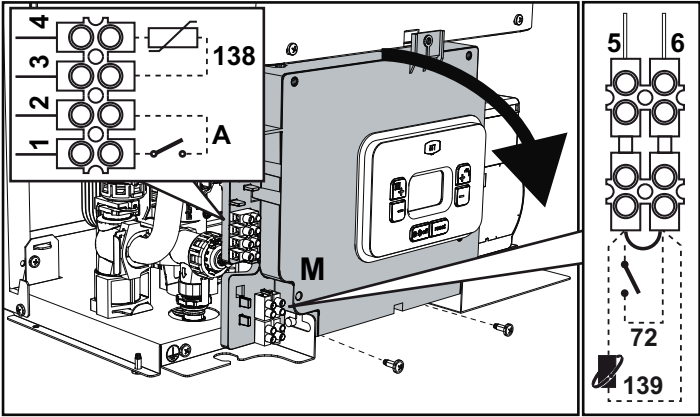
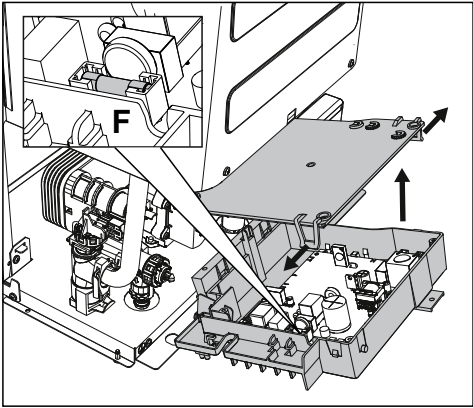

fig. 18
fig. 19
Remove the front panel (*** 'Opening the front panel' on page 287 ***) to access the terminal block (M) and fuse (F) by proceeding as follows (fig. 18 and fig. 19). **The terminals indicated in fig. 18 must be with voltage-free contacts (not 230V).** The arrangement of the terminals for the various connections is also given in the wiring diagram in fig. 40.
ON/OFF (A fig. 19) configuration